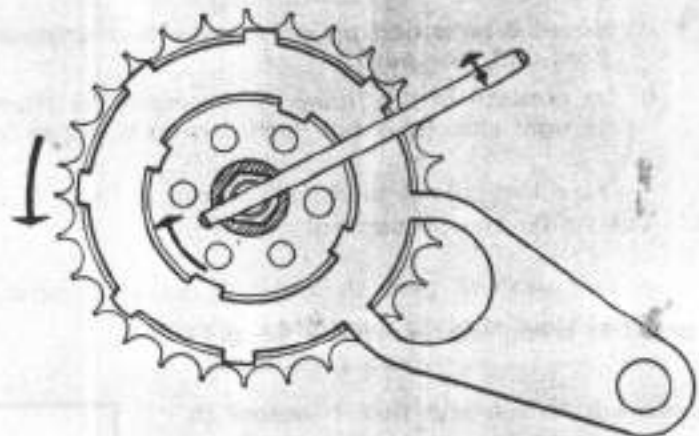

Fig. 16 – Holding of the clutch drum
- d) lock inner driver in position against turning with the aid of fixture No. 12 (fig. 16) and unscrew nut